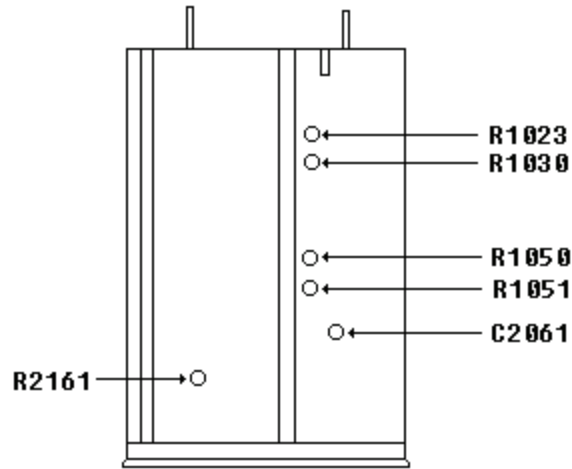
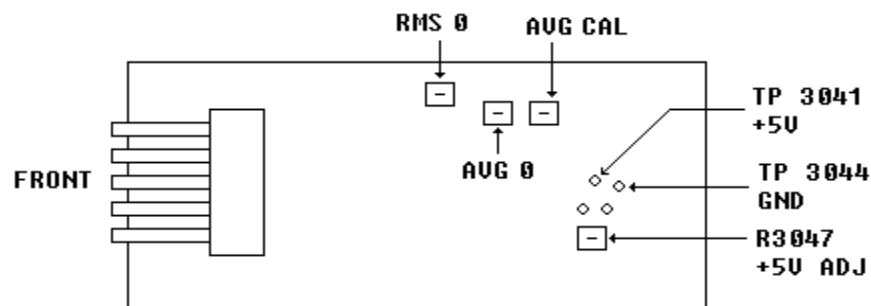
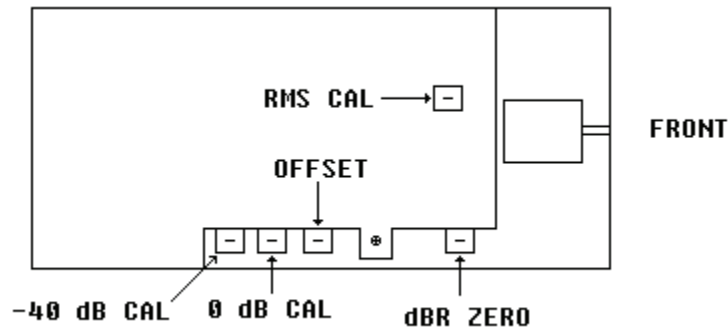

Figure 1. Test instrument - top view.
Figure 2. Test instrument - right view.
Figure 3. Test instrument - left view.
- (1) Disconnect equipment from **TI INPUT**.
- (2) Position controls as listed in (a) through (d) below:
- (3) Short **TI INPUT -** and **+**.
- (4) Connect oscilloscope **Vertical 1** input to **TI FUNCTION OUTPUT**.
- (5) Position oscilloscope controls for 200 mV/div, dc coupled and 200 ms/div sweep.
(6) Press distortion range **2%** and **0.2%** pushbuttons in turn and note oscilloscope display jump amplitude. If jump amplitude is 100 mV or greater, adjust R1050 (fig. 1) for minimum jump amplitude, less than 100 mV, when switching between 2% and 0.2% (R).
- (7) Disconnect short and oscilloscope from TI.
- (8) Connect calibrator **OUTPUT HI** and **LO** to **TI INPUT +** and **-**.
- (9) Position controls as listed in (a) through (d) below:
- (10) Set calibrator for a 15 mV, 1 kHz output.
- (11) Adjust RMS 0 (fig. 2) until TI indicates 0.015 V (R).
- (12) Press **FUNCTION dBm 600Ω** pushbutton and record TI indication.
- (13) Release **RESPONSE RMS/AVG** pushbutton to **AVG** and adjust **AVG 0** (fig. 2) until TI indicates same value recorded in (12) above (R).
- (14) Press **FUNCTION VOLTS** pushbutton.
- (15) Press **RESPONSE RMS/AVG** pushbutton to **RMS**.
- (16) Set calibrator for a 1.5 V, 1 kHz output.
- (17) Adjust **RMS CAL** (fig. 3) until TI indicates 1.500 V \pm 0.001 V (R).
- (18) Release **RESPONSE RMS/AVG** pushbutton to **AVG**.
- (19) Adjust **AVG CAL** (fig. 2) until TI indicates 1.500 V \pm 0.001 V (R).
- (20) Press **RESPONSE RMS/AVG** pushbutton to **RMS**.
- (21) Set calibrator for a 1 V, 60 kHz output.
- (22) Record TI indication.
- (23) Set **INPUT RANGE** switch to **20 V**.
- (24) Set calibrator amplitude to 10.00 V.
- (25) Adjust C2061 (fig. 1) for a TI indication 10 times greater than that recorded in (22) above (R).
(1) Set **INPUT RANGE** switch to **2V**.
(2) Set calibrator for a 774.6 mV, 1 kHz output.
(3) Adjust 0 dB CAL (fig. 3) until TI indicates 00.0 dBm (R).
(4) Set calibrator amplitude to 77.46 mV.
(5) Adjust R2161 (fig. 1) until TI indicates -20.0 dBm (R).